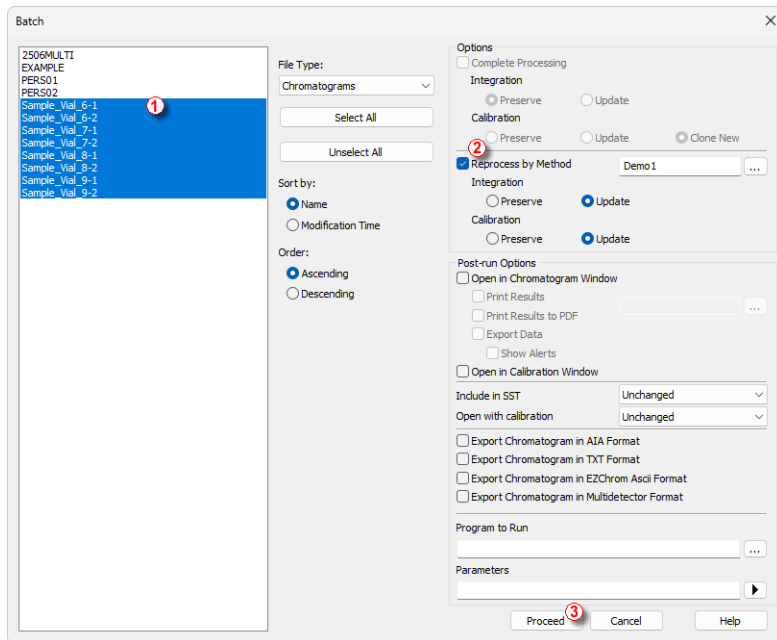

Fig. 18: Batch dialog with selected chromatograms
- Select the files to be reprocessed in the left part of the dialog (1) (Fig. 18 on pg. 32.); multiple files can be selected by left-clicking them while holding the **Ctrl** or **Shift** key. For the demonstration, select all files with the names SAMPLE_VIAL_X-Y to be reprocessed.
- Check the *Reprocess by Method* (2) checkbox, select the method to be used for the reprocessing (the one that has the correct calibration linked), and in